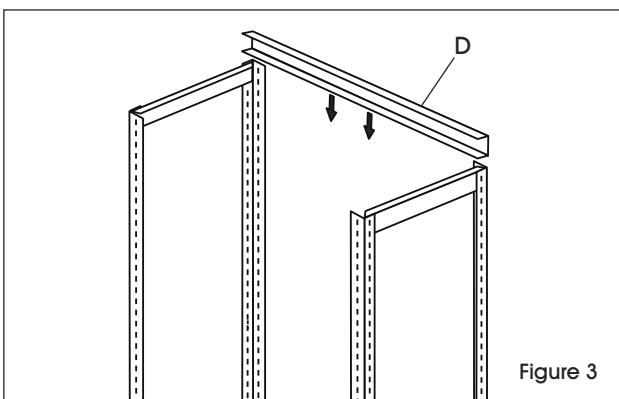

Figure 3
3. Connect the top of the two upright post assemblies by inserting one double flange front/back support (D). (See Figure 3)